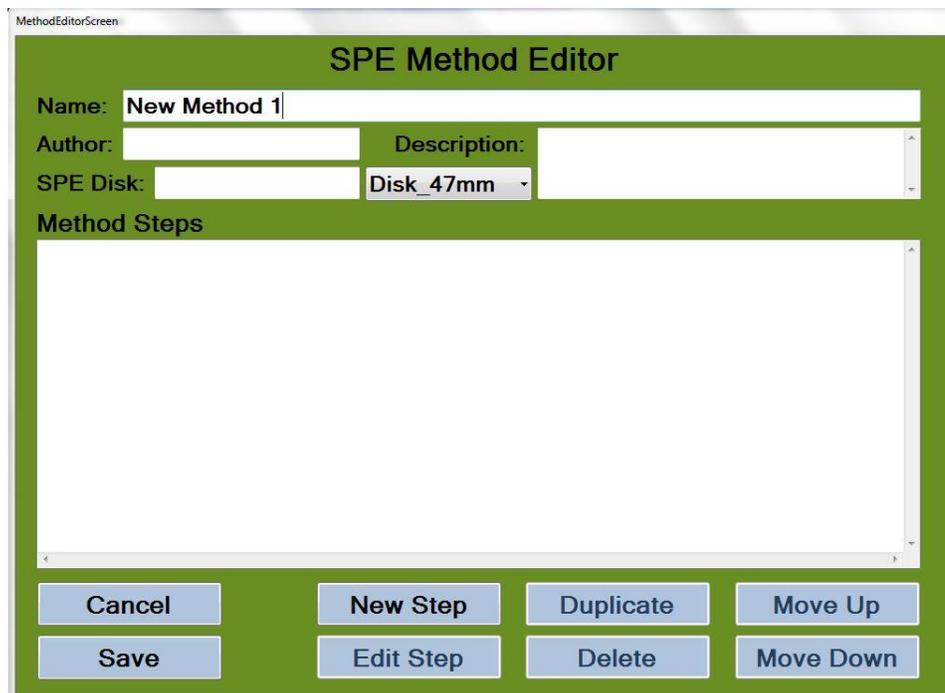

Figure 6-9. SPE Method Editor Screen for a New Method
Step 2: Click the *New* button. The SPE Method Editor screen is displayed without method steps defined (Figure 6-9).